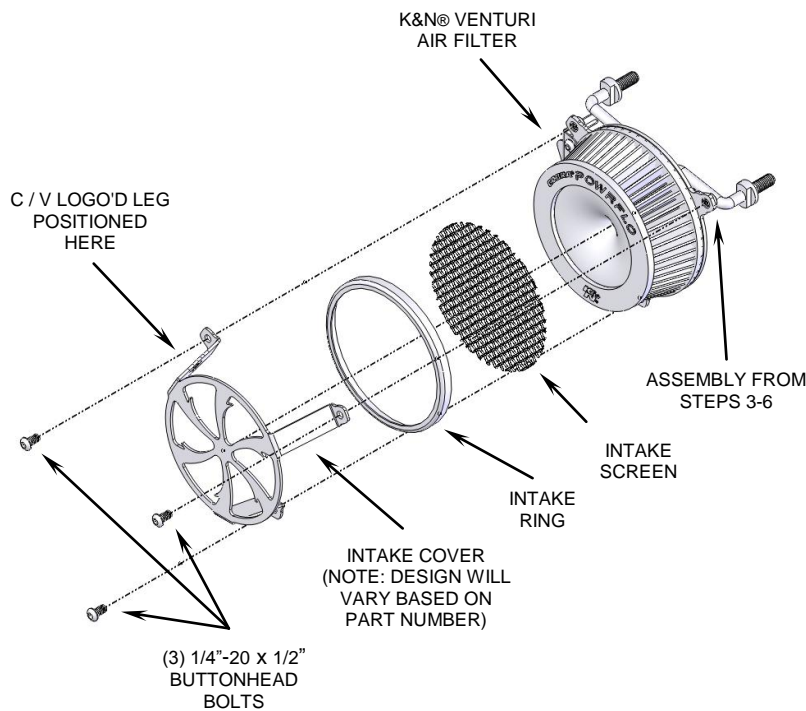

FIGURE 2
5. Insert the breather bolts into the cylinder heads and full tighten. Now snug the (3) buttonhead bolts evenly, and then fully tighten them to the throttle body.
7. Place the supplied K&N® filter onto the velocity stack. Insert the round intake screen into the black ring so the screen sits inside the edge of the ring. Place the ring and screen between the legs of the naked black intake cover as shown in Figure 2.
8. Place the naked intake cover, ring and screen assembled in Step 7, over the air filter and align each leg to the base mounting plate threaded holes. Be sure screen sits at a 45 ° angle to the bottom leg, and C/V logo'd leg is at the upper left position. Insert the (3) supplied 1/4"-20 x 1/2" buttonhead bolts through the intake cover and into the base mounting plate, see Figure 2. Double check all parts are aligned properly and tighten securely.